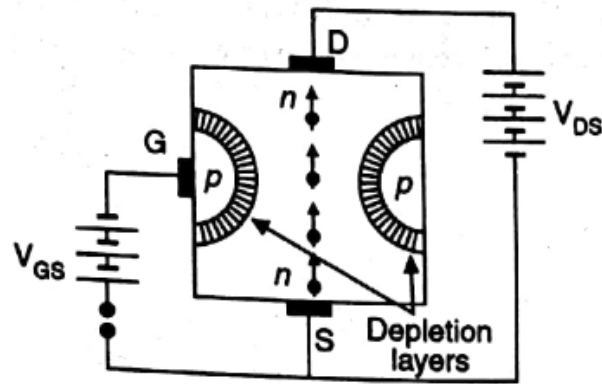

Fig. 2: Diagram of an n-channel Type FET
**Working:** We have a FET of n-channel type. A voltage  $V_{GS}$  can be applied between the Gate and the source terminals. Similarly, a voltage  $V_{DS}$  can be applied between the Source and the Drain as shown in the given arrangement (Refer Figure 2). Let us consider the gate voltage is zero in the beginning. When a voltage  $V_{DS}$  (Between Source and Drain) is applied. It is shown in the figure that the negative terminal of the battery providing  $V_{DS}$  is connected to the source and the positive terminal is connected to the Drain terminal D. Electrons flow from the Source to the Drain which gives the respective meaning to their names.